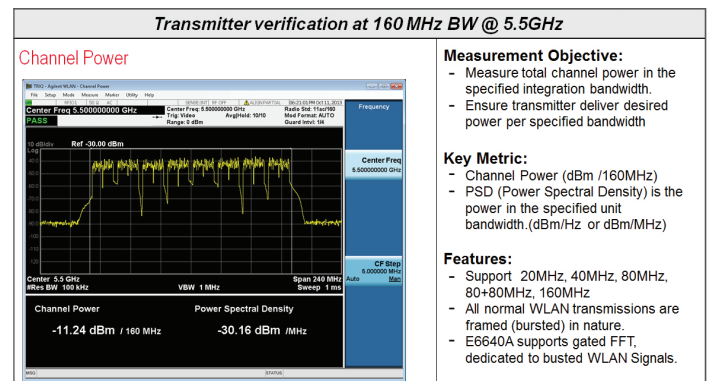

Figure 11. A channel power measurement using the EXM
Figure 11 illustrates some key 802.11ac transmitter measurements on a 160 MHz channel and 80+80 MHz channels. The EXM covers all higher-order modulation tests using its 160 MHz maximum capture and demodulation bandwidth. Channel power and modulation accuracy (EVM) measurements are required to be measured in up to a 160 MHz bandwidth. The 160 MHz capture bandwidth also enables rapid spectral mask testing.